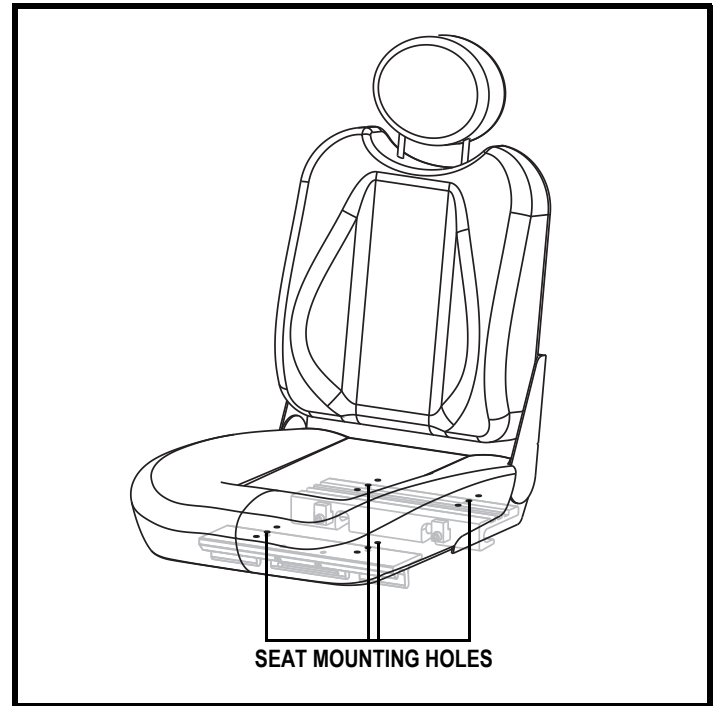

Figure 17. Seat Position Adjustment
6. Reposition the extrusions on a different set of mounting holes. You must move both extrusions the same number of holes either forward or backwards. **See figure 17.**